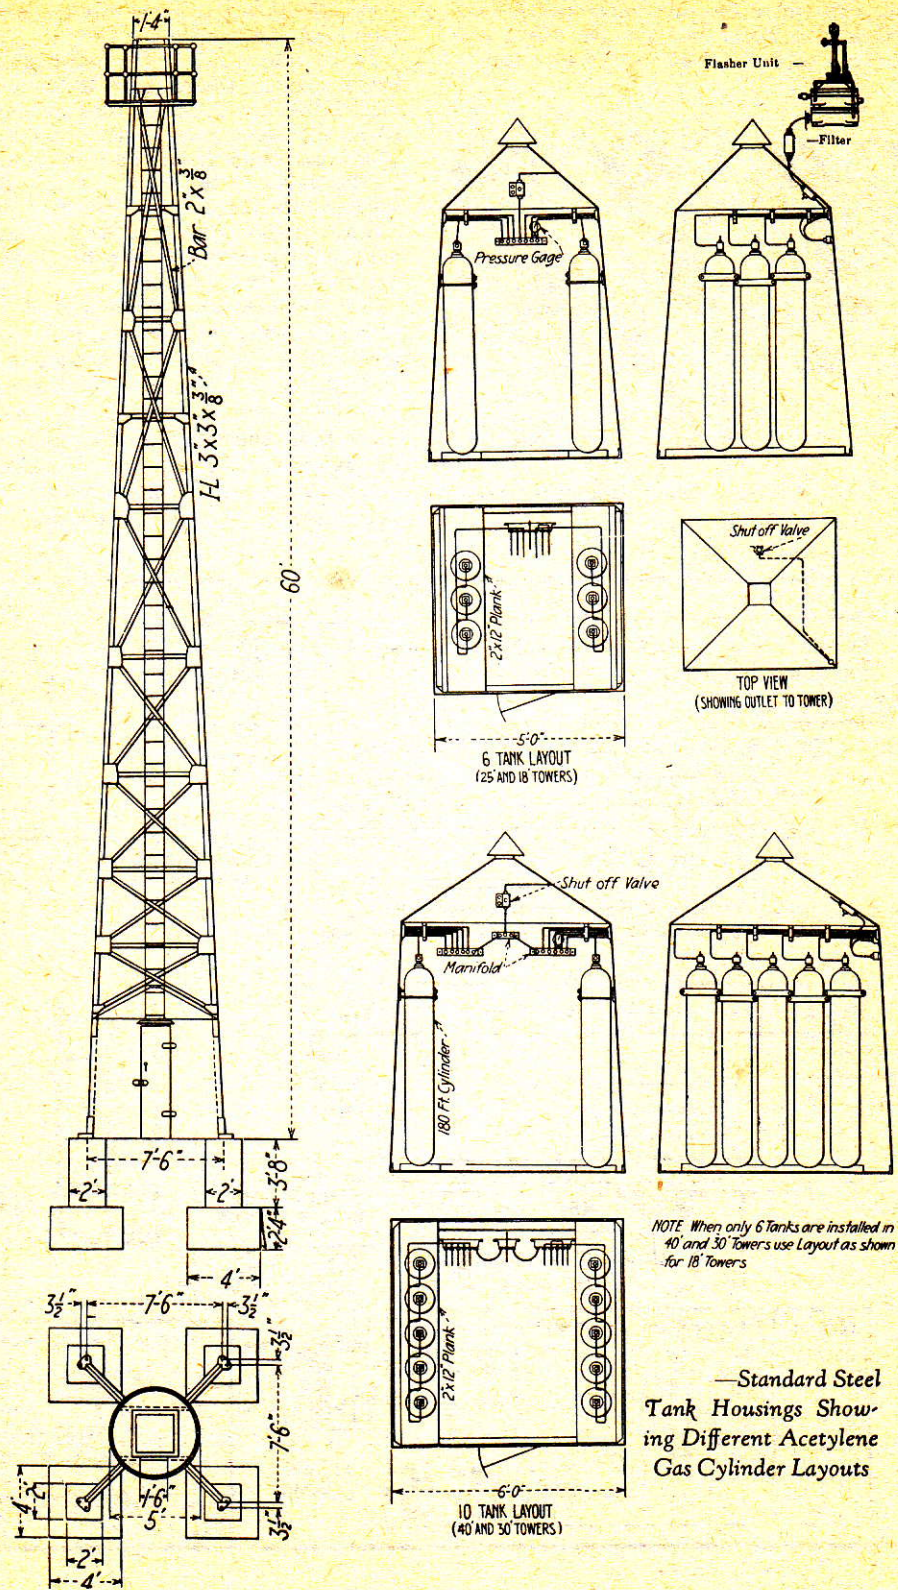

FIGURE 20-75.—Standard steel tank housings showing different cylinder layouts.
A. An acetylene-operated minor light may contain apparatus ranging from a 150 mm. lantern and an A-25 cylinder to a fourth order lens or larger and a bank of A-300 cylinders. Typical installations include a 200-mm. lantern with 6 A-50 cylinders; a 300-mm. lantern with 8 A-50's or a 375-mm. lantern with 10 A-50's. Large cluster burner flashers are occasionally installed using a bank of A-300 cylinders. Figure 20-75 shows typical layouts for shore structures.